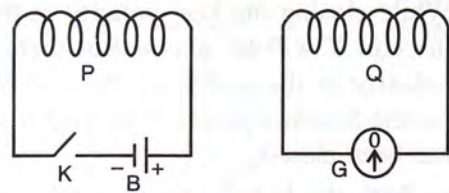

Fig. 10.39
2. Two coils P and Q are placed as shown in Fig. 10.39. The coil A is connected to a battery B and a key K, while the coil Q is connected to a centre zero galvanometer G.